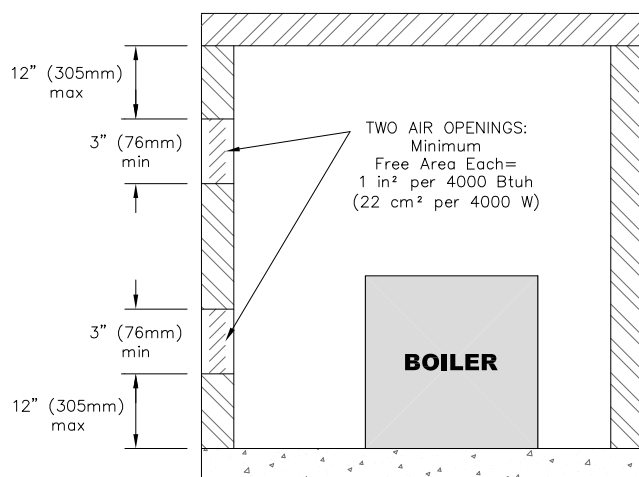
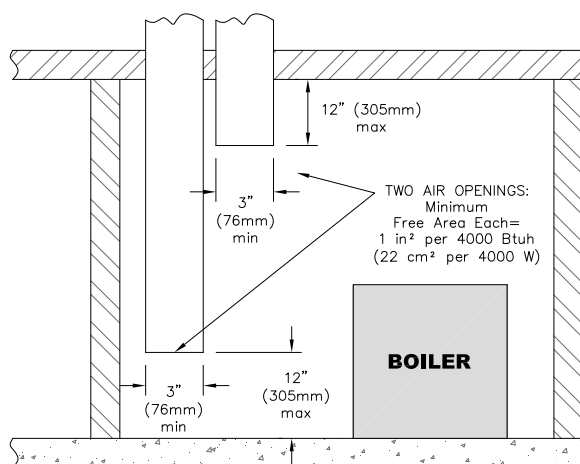

Figure 1.5: Air Openings – All Air Directly from Outdoors
Figure 1.6: Air Openings – All Air from Outdoors through Vertical Ducts
- i. Where communicating directly or through vertical ducts with the outdoors each opening shall have a minimum free area of 1 in² per 4000 Btu/hr (22 cm² per 4000 W) of total input rating for all equipment in the space. See Figure 1.5 for openings directly communicating with the outdoors or Figure 1.6 for openings connected by ducts to the outdoors.